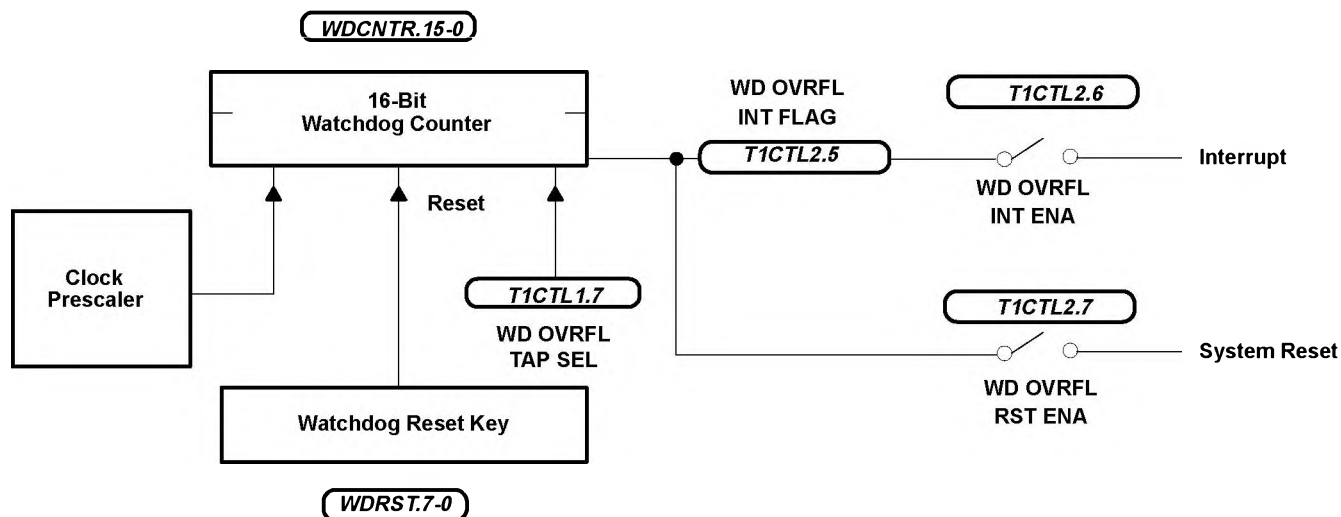

Figure 9. Standard Watchdog
- Standard watchdog configuration (see Figure 9) – for 'C75xA EPROM and mask-ROM devices